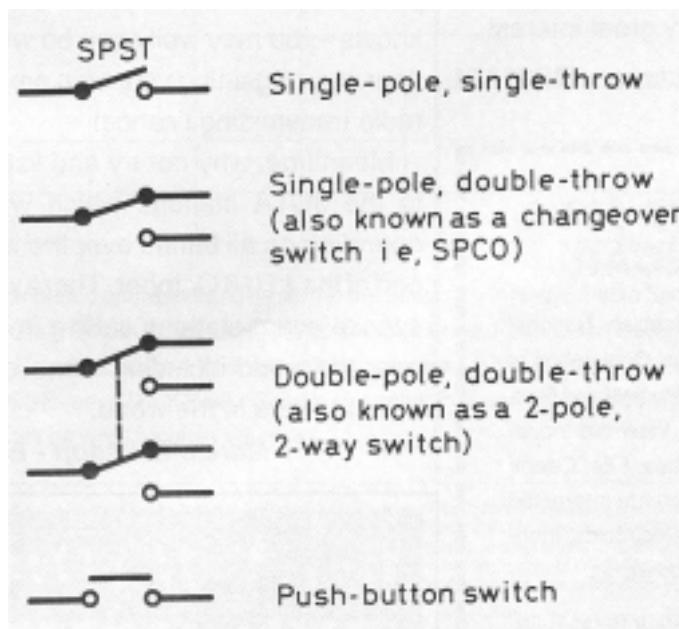

Figure 1 Some circuit symbols for different types of switch
- Number of poles.** A single switch can control many circuits; the number of poles tells you *how many* different circuits it can handle. See Figure 1.
- Number of throws.** This tells you the number of positions each pole can have. This is best illustrated in Figure 1. The simplest ON/OFF switch is a Single-Pole, Single-Throw (SPST) switch. A Single-Pole,
Double-Throw (SPDT) switch may also be used as an ON/OFF switch, but is used mainly to change between two parts of a circuit, and is commonly known as a Single-Pole Change-Over (SPCO) switch. Two or more SPCO switches can be operated at once; Figure 1 shows an example. The two switches are said to be *ganged*. See also ‘Types of switch’ below.